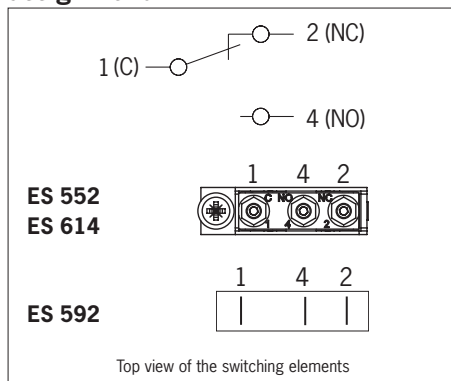

Fig. 1: Switching elements and terminal assignment
- ▶ For terminal assignment, see Fig. 1.